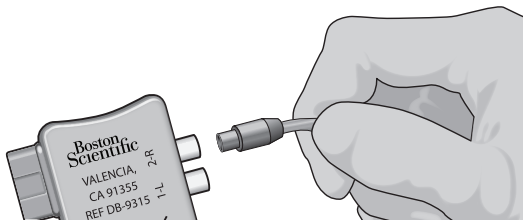

Figure 6: Connection of the 1x8 OR Cable to External Trial Stimulator 2 and ETS Adapter
4. Plug the OR Cable with Extension into the ETS Adapter socket labeled “1-L” (Figure 6). If two DBS leads are being used, connect the left DBS Lead to socket “1-L” and the right DBS Lead to socket “2-R.”